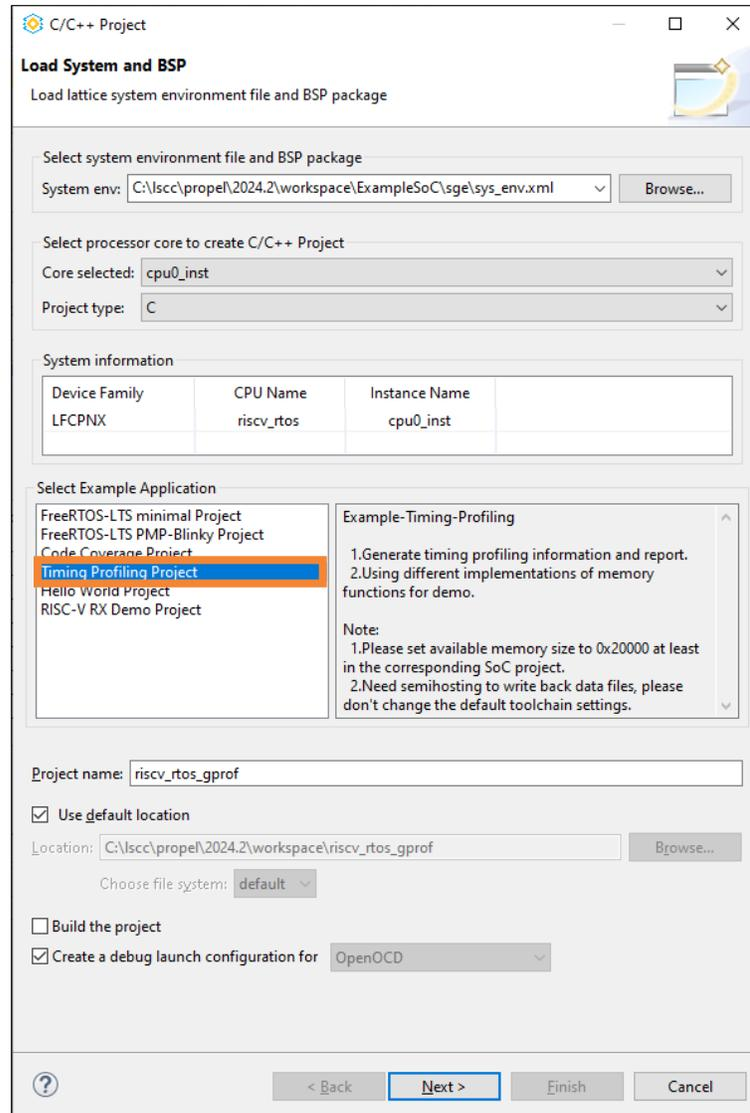

Figure 7.1. Load System and BSP Page 6
1. The Timing Profiling C project can be created through the **Load System and BSP** page (Figure 7.1).